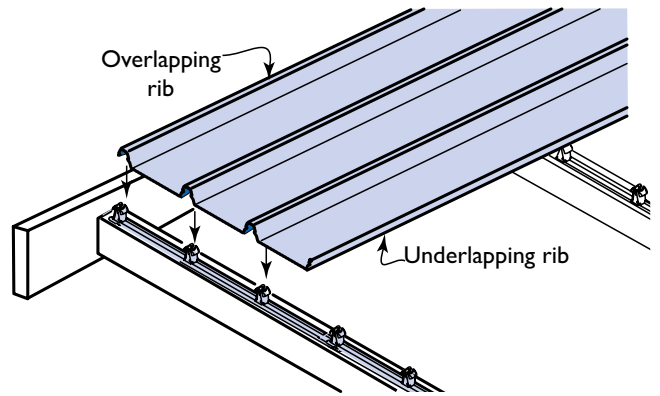

Figure 4
- 9 Position the first sheet so that it overhangs the desired amount (usually 50mm) to the gutter. It is important to ensure this first sheet is placed square to adjacent edges. (Figure 4.)